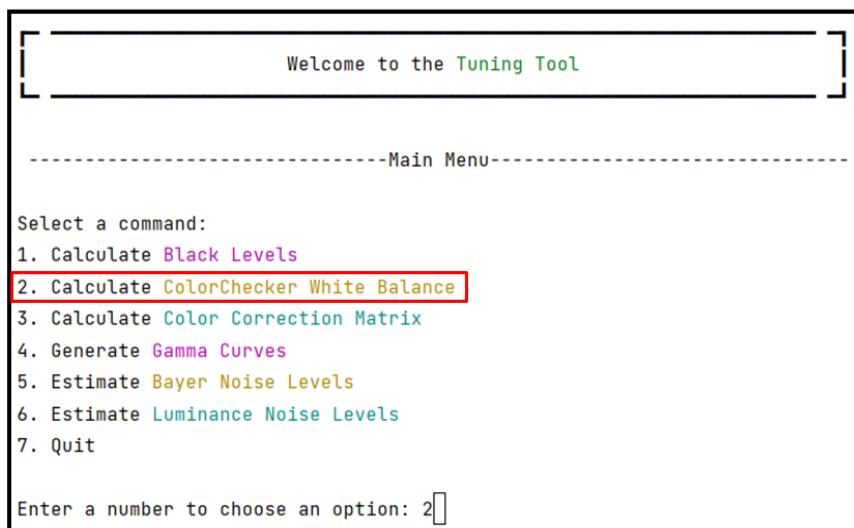

Figure 17: WB selection from the main menu
- From the tuning tool main menu, choose 2 to select the WB module as shown in Figure 17.